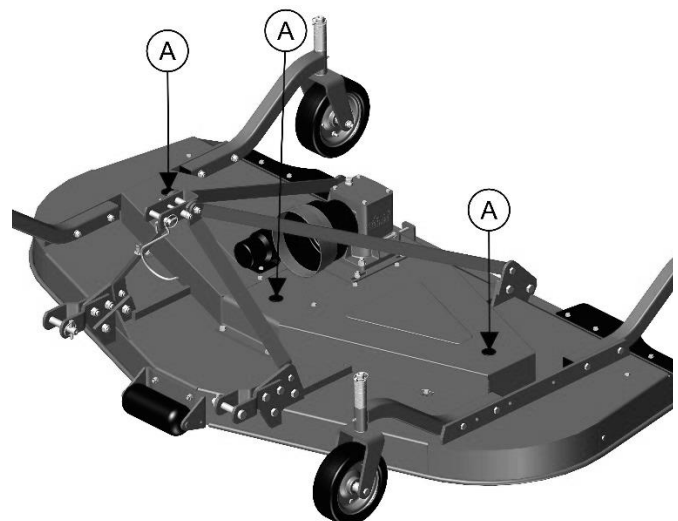

Figure 15
The blade spindle shafts are supported by two (2) bearings that require regular lubrication. Grease fitting points [Figure 15, Item A] are placed on the top of the three spindle shafts, protected by special rubber caps.